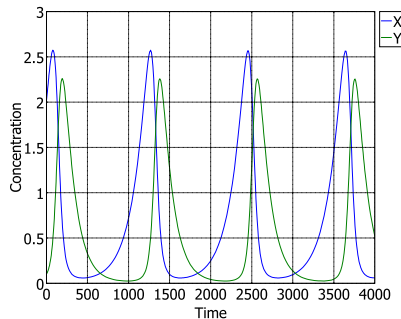

Figure 4-49: Species concentrations (mol/m^3) of oscillating species as functions of time (s).
The Lotka-Volterra kinetics illustrates chemical oscillations without damping (Figure 4-49).
- 1 The initial plot will now resemble Figure 4-49.